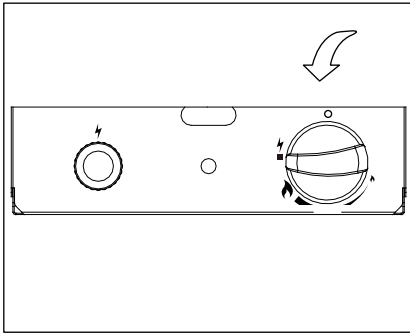

Figure 2
- Push in control knob and turn counterclockwise to “PILOT” (  ) (Figure 2).